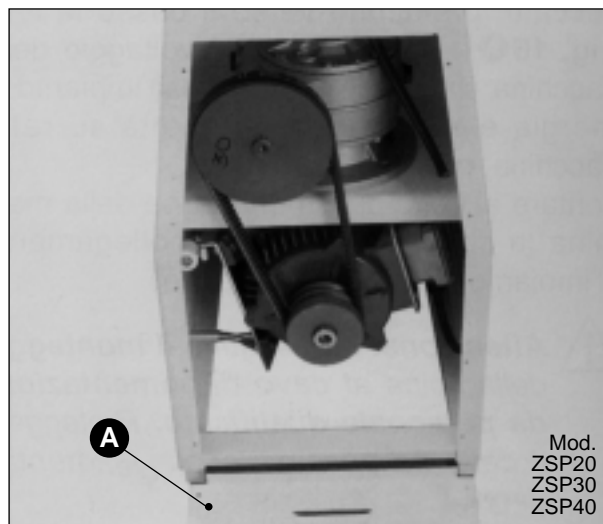
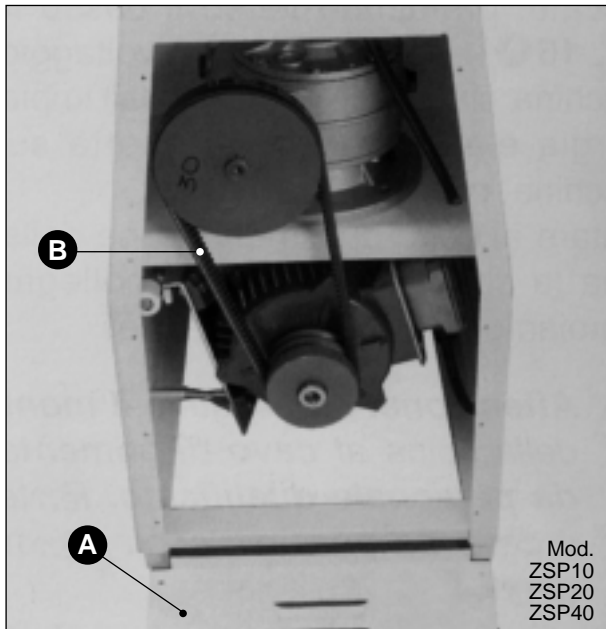
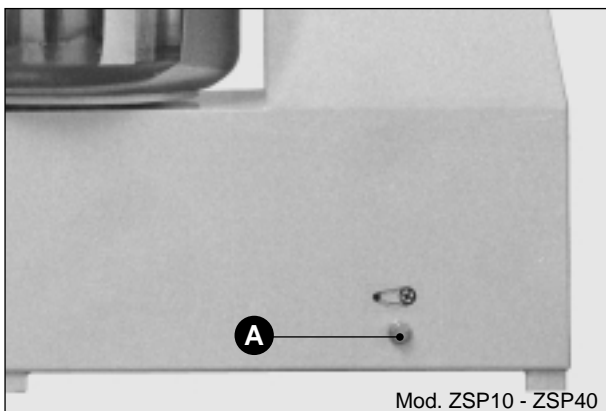

Fig. 19
Fig. 21
Fig. 22
- to clean internal parts of machine, first dismantle the rear panel (Fig. 19 **A**, previous page); remove any grease and pow-
To do this, disassemble machine rear panel (Fig. 19 A); be sure that the belt (Fig. 21 B) is taut enough and, if necessary, turn screw (Fig. 22 A) and knobs (Fig. 23 A) marked by the appropriate symbol, without exaggerating when tightening the belt. Reassemble the rear panel.